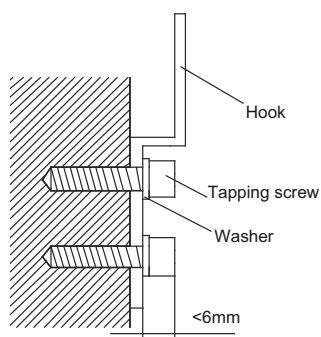

Fig.49-7
1. Fix the hook with tapping screw onto the wall. (Refer to Fig.49-7)